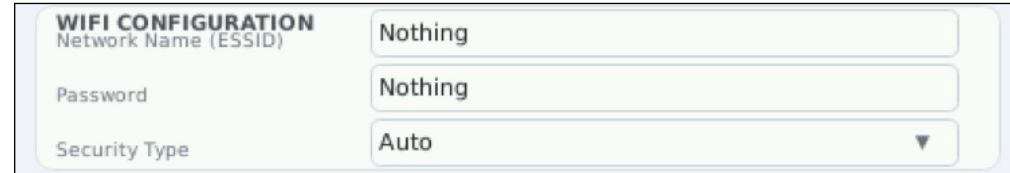

Figure 26
- a. In the WiFi Configuration section, select the **Network Name (ESSID) input** (Figure 26) to open the onscreen keypad.